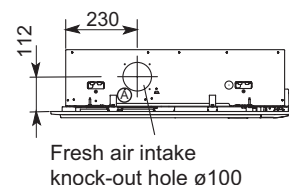

Fig. 2-164
- (5) If the system requires fresh air to be drawn into the unit, cut and remove the insulation (both externally and internally) at the location shown as (A) in Fig. 2-164.